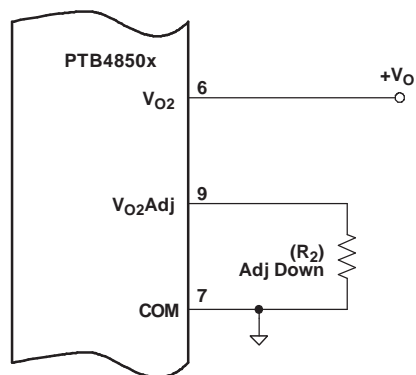

Figure 18. Adjust Down
**Adjust Down:** To decrease the magnitude of both output voltages, add a resistor ( $R_2$ ), between  $V_{O2}$  Adj (pin 9) and the COM (pin 7) voltage rail; see Figure 18.